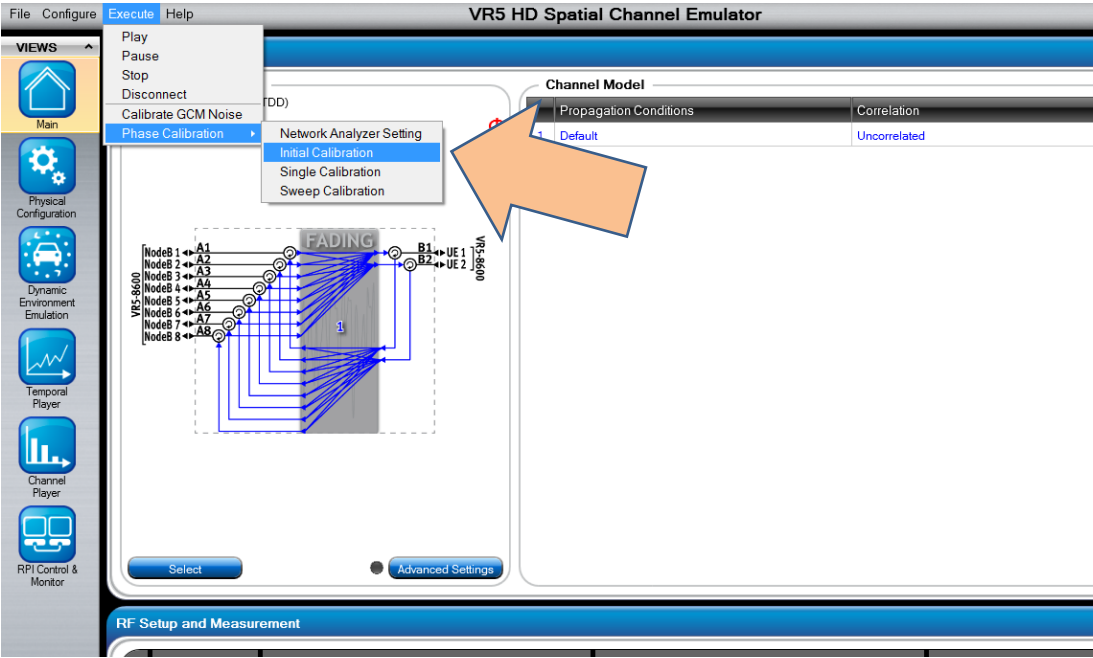

Figure 4-12: Execute Initial Calibration Menu Location
- 16. Select **Execute>Phase Calibration>Initial Calibration**, as shown in Figure 4-12.